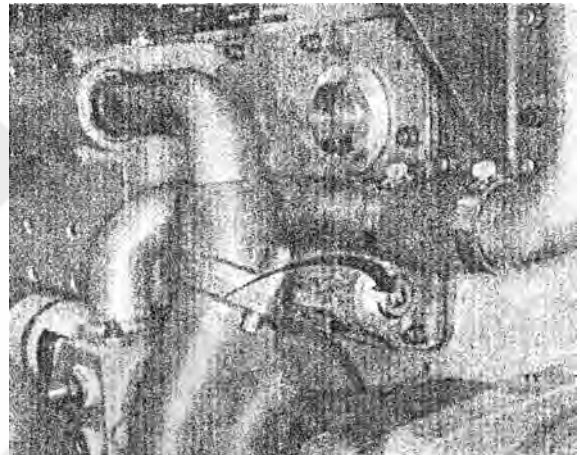
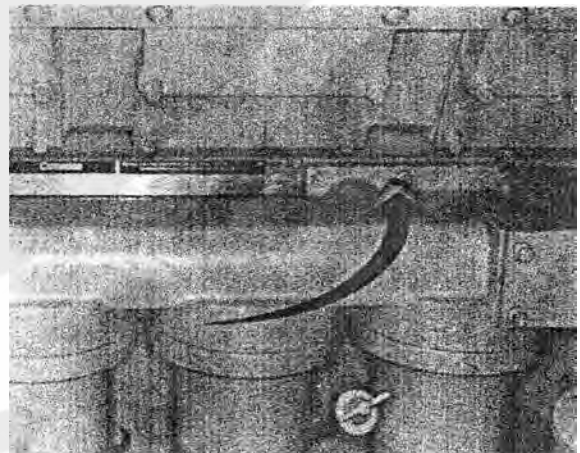

Fig.1-1 Lubricating system priming point on KT/KTA-19.
Fig. 1-2 Lubricating system priming point on KT/KTA-38 and KTA-50.
2. Remove plug from boss on rear gear housing on front of oil cooler housing on KTA19 Engines (Fig.1-1). On KTA38 Engines remove plug from lubricating oil filter head (Fig 1-2).